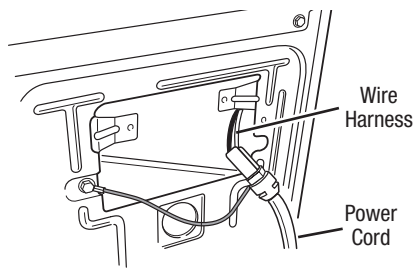
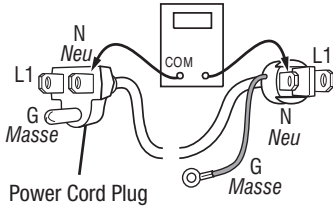

Figure 5. Power cord-to-wire harness connection for gas dryer.
Figure 6. Power cord terminals, gas dryer.
3. Check that the power cord is firmly connected to the dryer's wire harness. See figure 5.
5. With an ohmmeter, check for continuity between the neutral (N) terminal of the plug and P8-3 (white wire) on the machine control board.
The left-hand side of figure 6 shows the position of the neutral terminal (N) on the power cord plug. Also see figure 15, page 23.
- If there is no continuity, disconnect the white wire of the harness from the power cord at the location illustrated in figure 5, page 13. Test the continuity of the power cord neutral wire as illustrated in figure 6. If an open circuit is found, replace the power cord. Otherwise, go to step 6.
- If there is no continuity, check the continuity of the power cord in a similar way to that illustrated in figure 6, but for power cord's L1 wire.